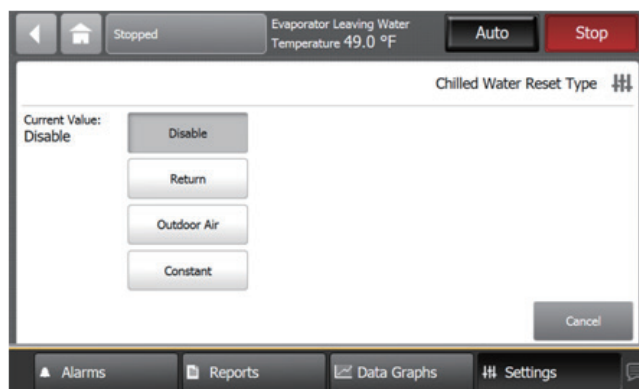

Figure 41. Chilled water reset type screen
- b. For screens with numerical keypads (Figure 41), touch the appropriate numbers to change the current value. The new value appears above the keypad.